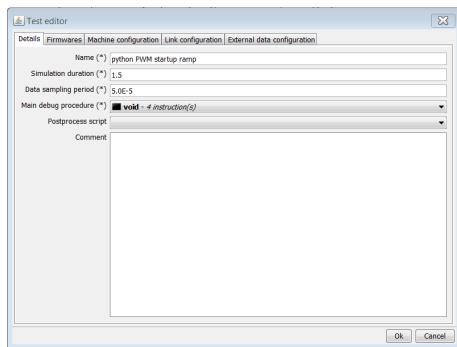

Figure 6.6: Click.
- *Details*, , is shown in Figure 6.6;